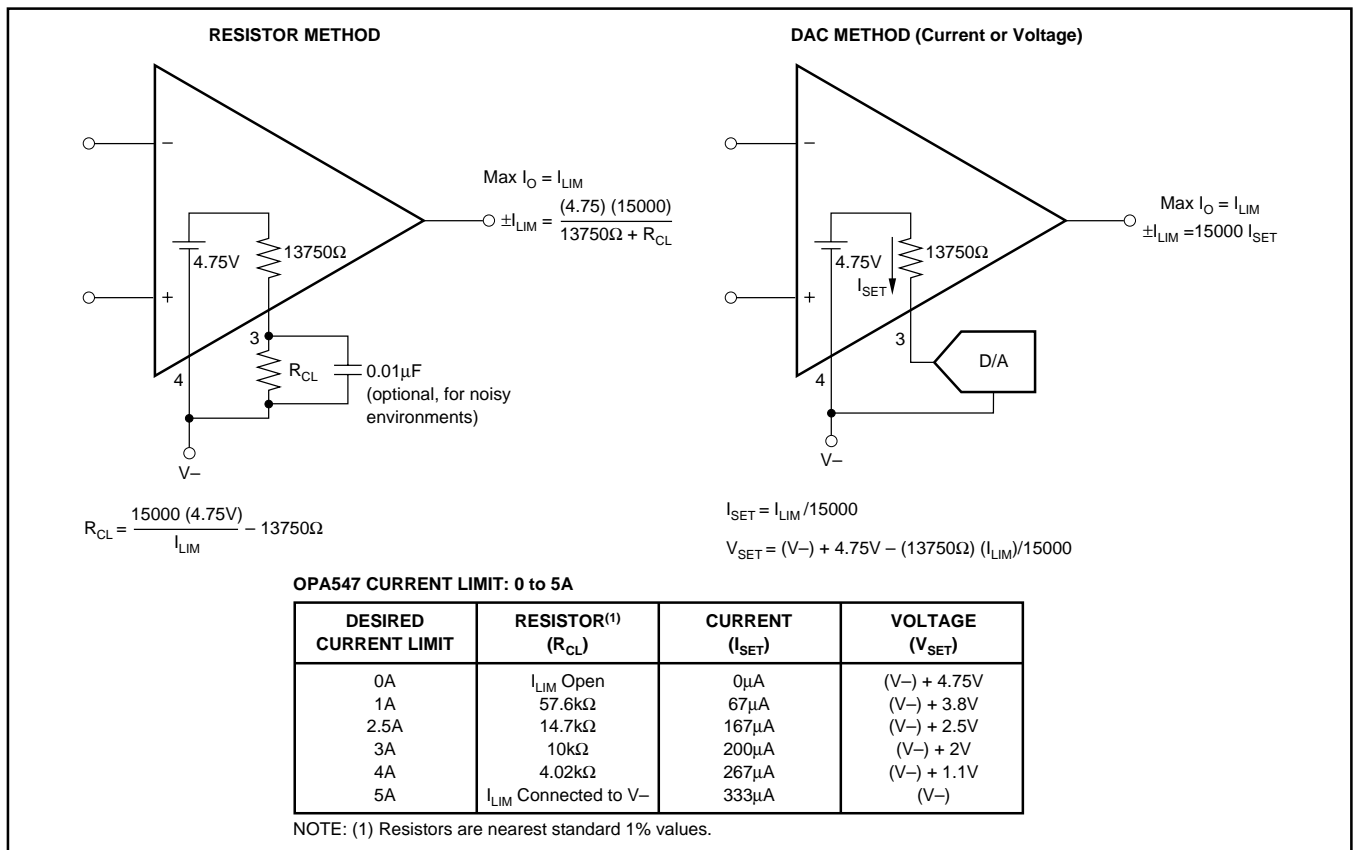

FIGURE 3. Adjustable Current Limit.
See Figure 3 for a simplified schematic of the internal circuitry used to set the current limit. Leaving the I_{LIM} pin open programs the output current to zero, while connecting I_{LIM} directly to V- programs the maximum output current limit, typically 5A.
NOTES: (1) Works well for $G < 10$. Input offset causes output current to flow between amplifiers with $G > 10$. Gains (resistor ratios) of the two amplifiers should be carefully matched to ensure equal current sharing. (2) As configured (I_{LIM} connected to $V-$) output current limit is set to 10A (peak). Each amplifier is limited to 5A (peak). Other current limit values may be obtained, see Figure 3, "Adjustable Current Limit".